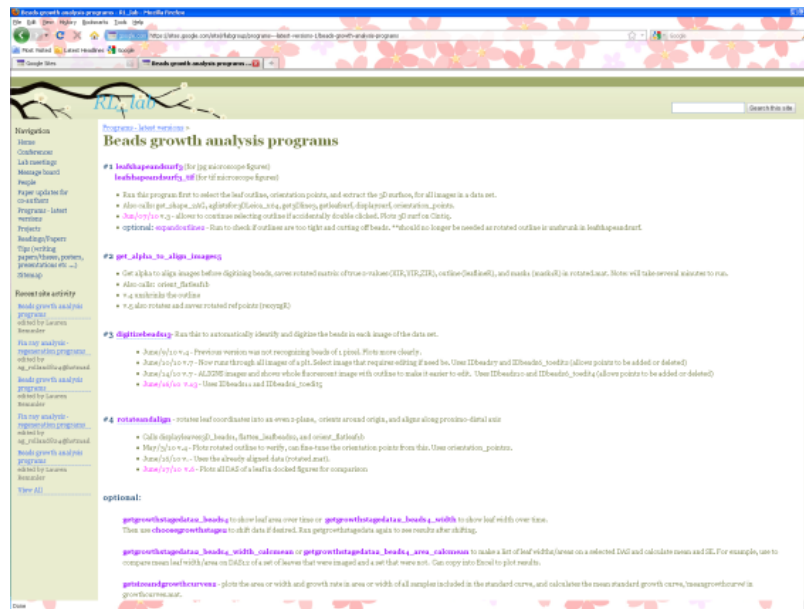

Figure 1. RL\_lab website
1. Program names can be found at the RL\_lab website under the tab "Programs - latest versions" (Figure 1). The website is updated regularly to include modifications to the programs.